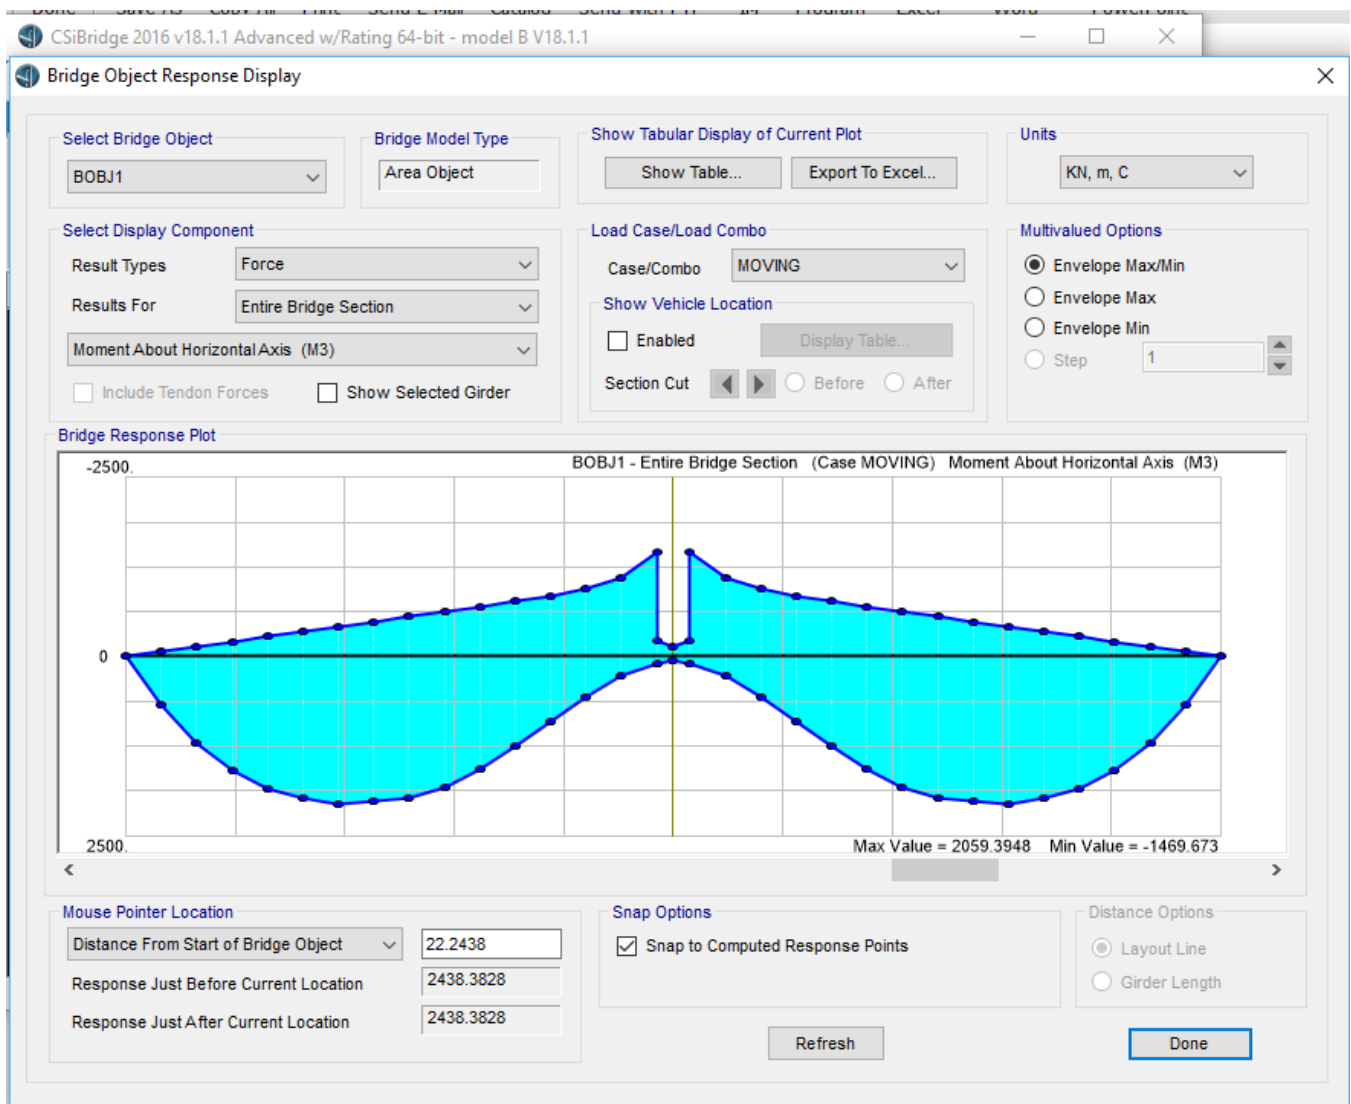

Figure 3: Live load moment diagram (continuous superstructure)
- Check moments for the results of moving-load analysis to ensure that moments are as expected for a continuous-girder system, see Figure 3.